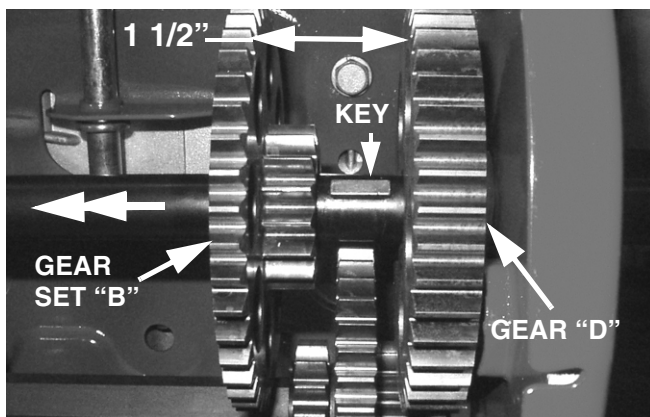

FIGURE 7
12. While keeping GEAR "D" against the right side of the frame, slide the axle, along with GEAR SET "B", to the left sufficiently, about 1 1/2 inches, to expose the Hi-Pro key. See Figure 7. This will provide sufficient room for Steps 15 and 16. Remove and discard the key.